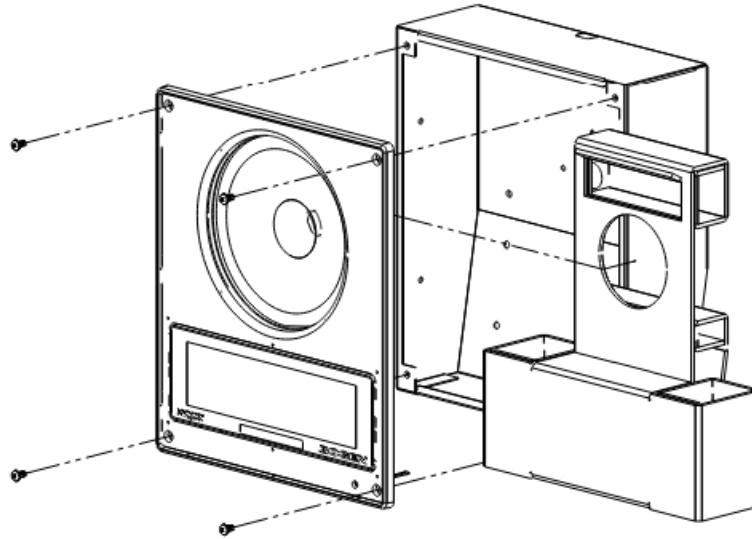

Figure 3: Remove cardboard insert from enclosure.
1. The speaker is packaged with the baffle attached to the enclosure, a grille, and two flush-mount brackets. Remove the four screws that attach the speaker bezel to the enclosure, then remove the cardboard insert from inside the enclosure, as shown in Figure 3.